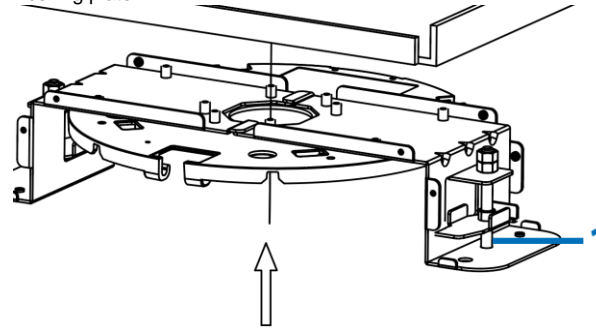

Figure 7
- Use a screwdriver to turn the 'locking' screws (1) (Figure 7) on both recess mount brackets clockwise to fully extend the 'swing out' mounting clips and seat them tightly against the top surface of the ceiling plate.